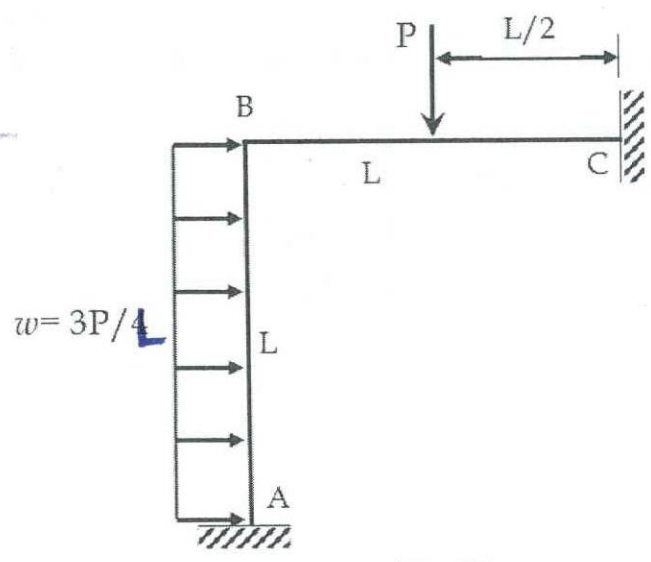

Fig. Q2
- Q2. An idealized concrete frame structure is shown in Fig. Q2. The frame consists of two members (i.e., a beam and a column) of constant flexural rigidity, EI , connected by a rigid joint at node B. The member BC supports a concentrated load P acting downward at midspan and the member AB carries a uniformly distributed horizontal load of intensity w as shown in Fig Q2. The magnitude of w (in units of load per unit length) is equal to $3P/L$. The change in length of the members can be neglected.